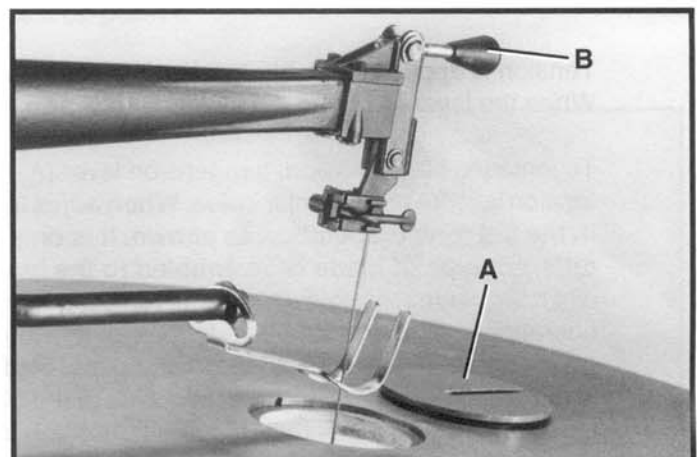

Fig. 25
2. Remove table insert (A) Fig. 25, and release blade tension by pulling tension lever (B) forward, as shown.